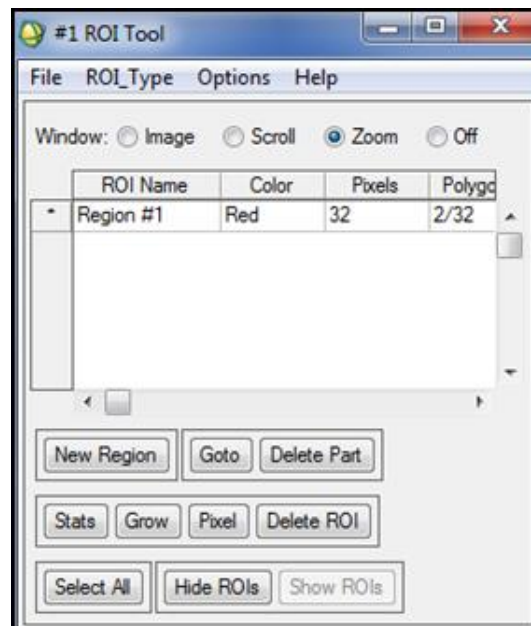

Figure 5.11b. ROI Tool Window
- Then Click the Stats radio button (Figure 5.11b).